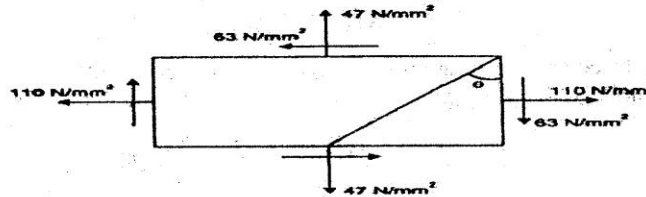

Figure-1
1. A rectangular block of material is subjected to a tensile stress of 110 N/mm^2 on one plane and a tensile stress of 47 N/mm^2 on the plane at right angles to the former as shown in figure- 1. Each of the above stresses is accompanied by a shear stress of 63 N/mm^2 and that associated with the former tensile stress tends to rotate the block anticlockwise. Find :